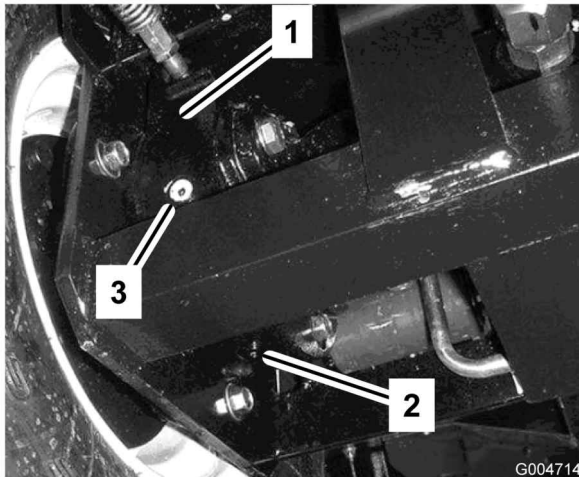

Figure 58
4. Place a drain pan under the brake housing on the other side of the wheel (Figure 58).